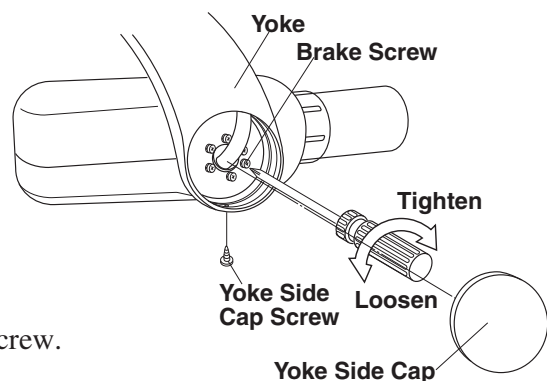

Fig.4-3 Head Positioning
- B. If head drifts from the set position, adjust the brake screws according to the following procedures. (**Fig.4-3**)